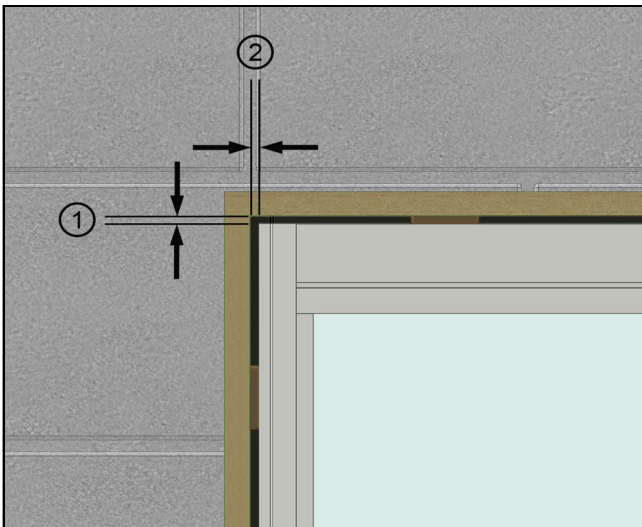

Figure 5
5. Masonry Openings (MO) for flanged windows should be 1" greater than outside frame (flange) measurement. The Rough Opening (RO), with or without a wood buck, should result in a 1/2" overall shim space, 1/4" per side. Size the Masonry Opening (MO) accordingly, based on the wood buck specifications. When framing a rough opening, ensure the sill plate is level and the opening is square, straight, and plumb. See Figure 5.